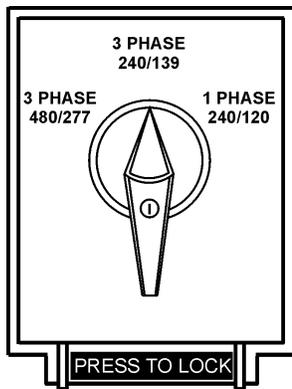

Figure 15. Voltage Selector Switch
A wide range of voltages are available to supply voltage for many different applications. Voltages are selected by using the **voltage selector** switch (Figure 15). To obtain some of the voltages as listed in Table 9 (see below) will require a fine adjustment using the **voltage regulator (VR) control knob** located on the control panel.
The voltage selector switch (Figure 15) is located above the output terminal panel's Hard Wire Hook-up Panel. It has been provided for ease of voltage selection..